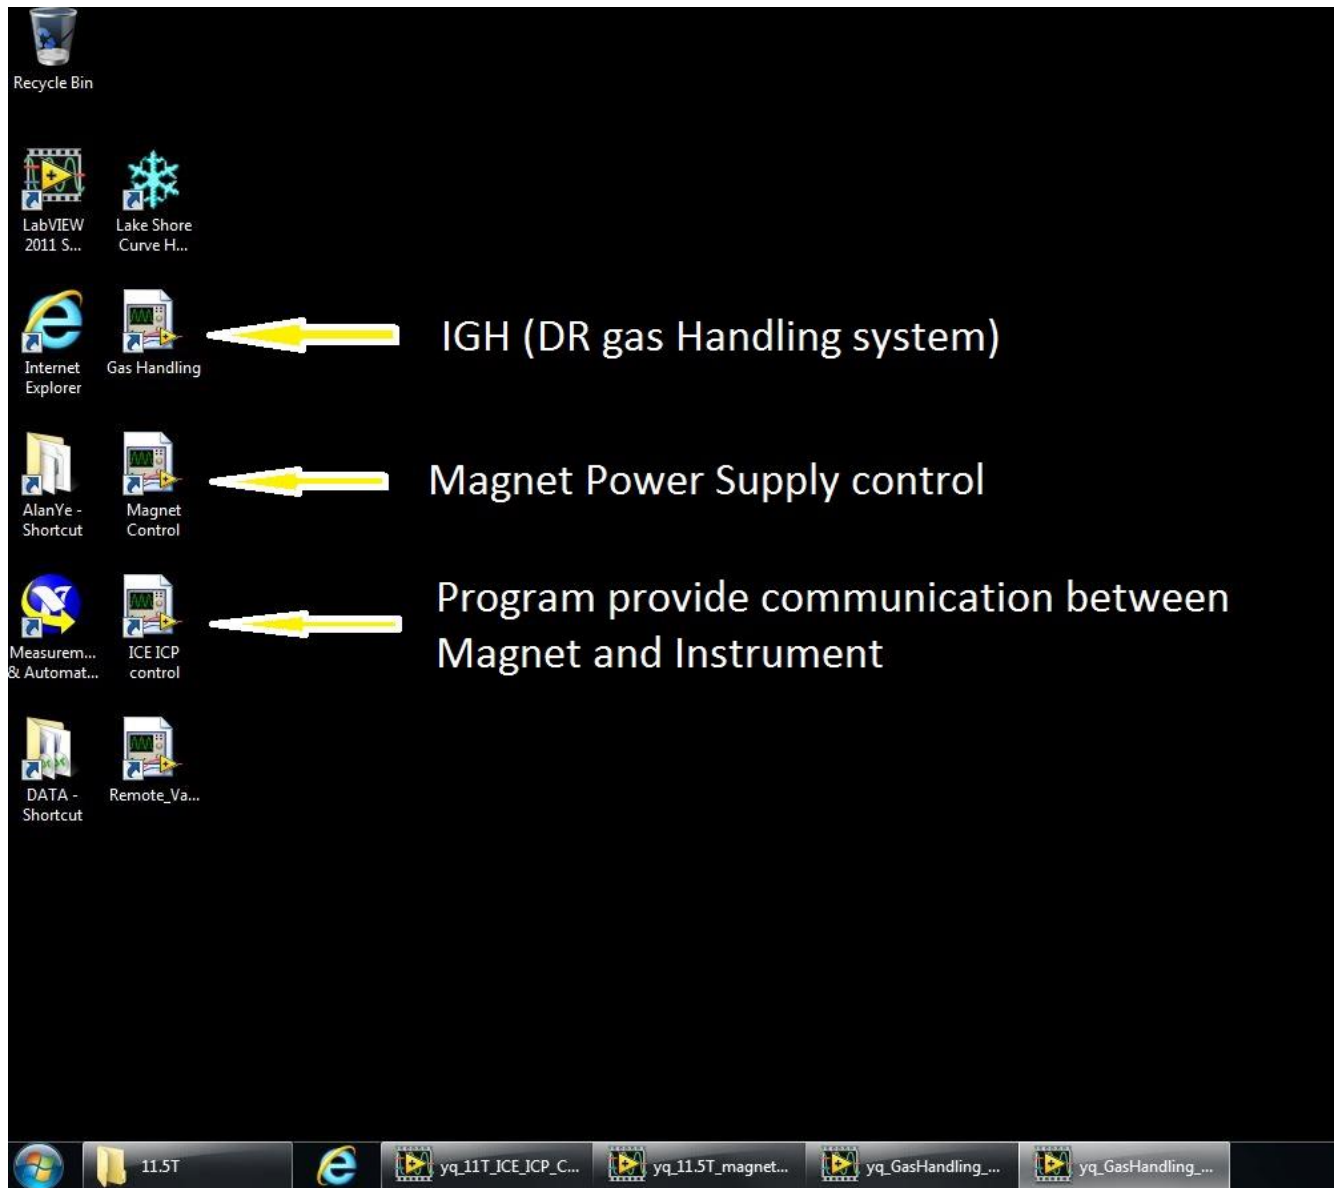

Fig.4
3. **IGH (Dilution Refrigerator Gas Handling system)** can be controlled both remotely and manually. For remote control use program: Gas Handling (Fig.4). Program simulate IGH box, thus, you have to be familiar with main operating regimes of dilution refrigerator to work with IGH within both manual and remote modes. Operating regimes of the Refrigerator will be described in the Operational Manual later.
5. **Computer** used for “11T Magnet” remote control is permanently attached to the system. Thus, remote operations do not require any additional cables reconnections. Single exclusion is connection the Magnet to the Neutron Instrument computer. This connection performed with RS232 cable to the computer port: COM #10. LabView program responsible for communication between Magnet and Instrument is: ICE ICP Control (Fig.4).
6. **Additional Temperature Control** used to control and indicates temperatures higher than standard Dilution Refrigerator temperatures: $>1.2\text{K}$. Two channels used. Channel 1(D) indicate the Slug (sample holder) temperature within $40\text{K} < T < 0.05\text{K}$, Channel 2 (C) indicate sample (mixing Chamber) temperature within $273\text{K} < T < 0.3\text{K}$. Channel 2 used for high temperature control. Channel 3(B) indicates 1K Pot temperature.